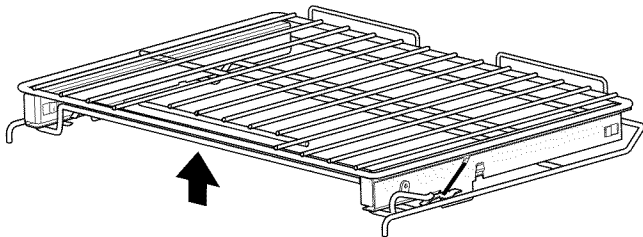

Figure 18: Glide rack with release rack in unlocked position
2. While holding up the release lever (Figure 18), pull the glide rack out of the oven until the stop position is reached, use two hands if necessary.